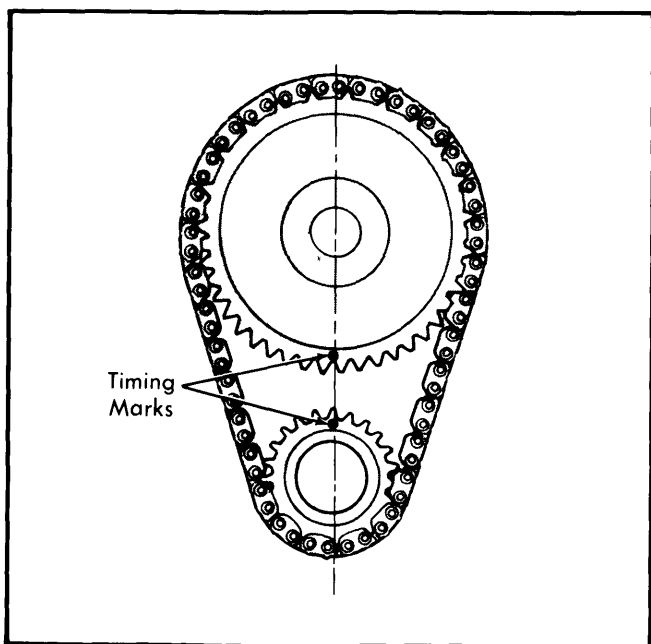

Fig. 7 Timing Chain Sprocket Alignment
**Installation** — Apply a thin coat of rear axle lubricant to all camshaft lobes and bearing journals, and guide camshaft carefully into cylinder block. Reverse removal procedures while noting the following: Extreme care must be exercised to avoid nicking or scratching camshaft bearings. Install camshaft sprocket in timing chain with timing mark toward front. Place chain over crankshaft sprocket and line up timing marks on both sprockets (see Fig. 7). Index hole in camshaft must line up with index hole in sprocket.